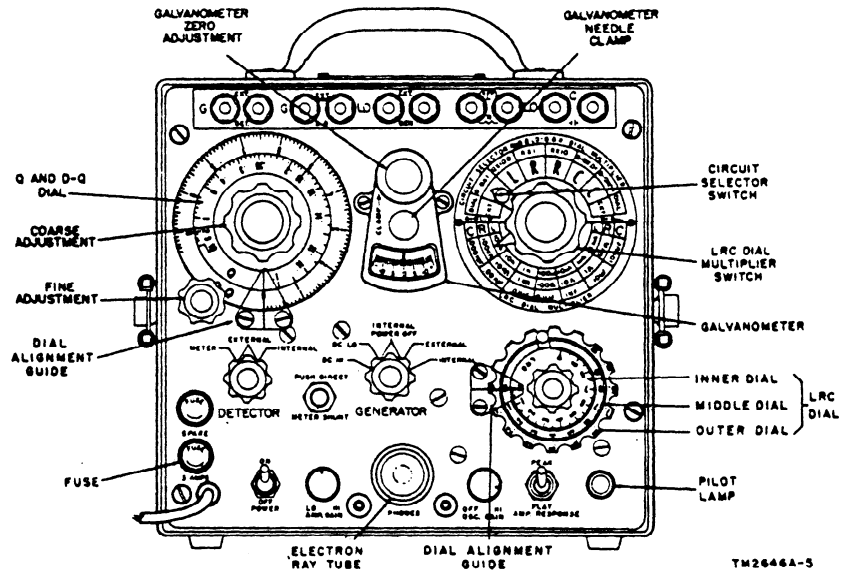

Figure 4 Bridge, showing front panel controls.
The controls of the test set (fig. 4) are listed and described in paragraphs 14 and 15 below. The functions of the bridge ratio dials and switches (CIRCUIT SELECTOR and Q, D-Q, & R DIAL MULTIPLIER, LRC DIAL MULTIPLIER, LRC dial, and the D and D-Q dial) are outlined in paragraph 14. The remaining controls and instruments are listed in paragraph 15. Binding posts and their uses are described in paragraph 16.
(fig. 4)
- a. Push the POWER switch (fig. 4) to the ON position. The pilot lamp should light.
the arrow (fig. 4). If the galvanometer needle does not center, adjust it to zero as follows: